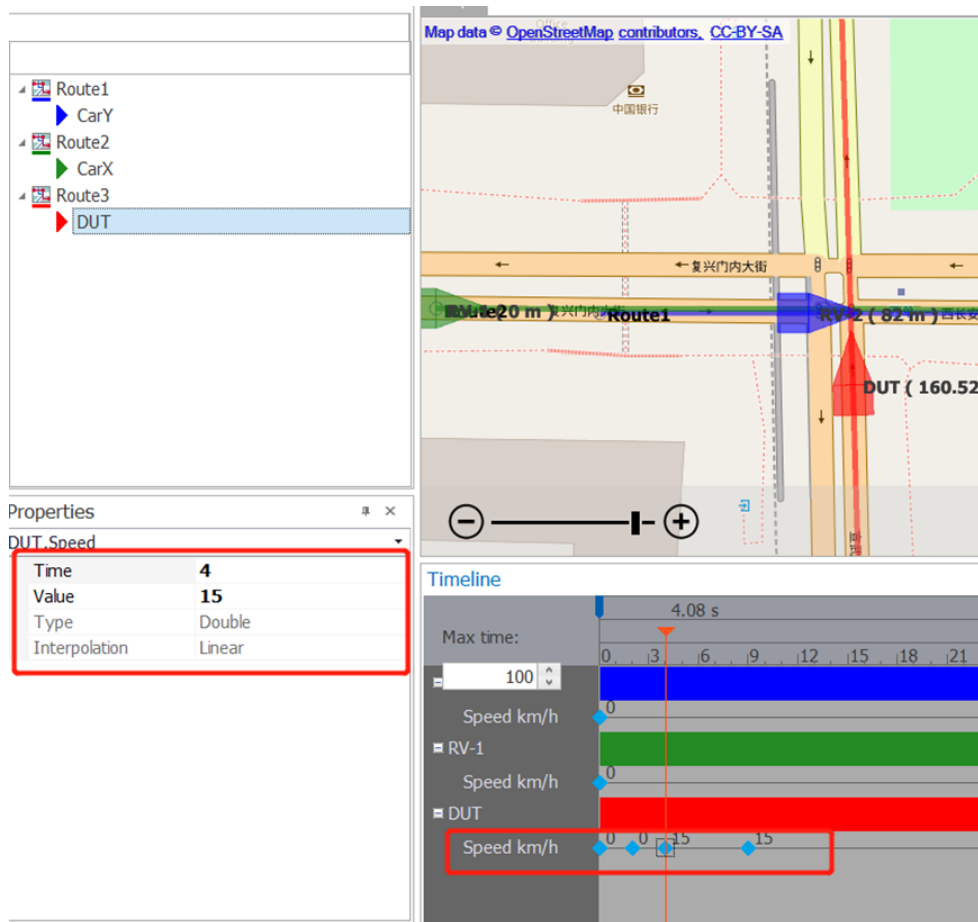

Figure 17: Edit HV parameter
- Drag the DUT in the map at the intersection as the initial position. In the timeline window: edit the vehicle waypoint to simulate the starting of the HV. (0s-0km/h;2s-0km/h;4s-15km/s,9s-15km/h) (Figure 17).